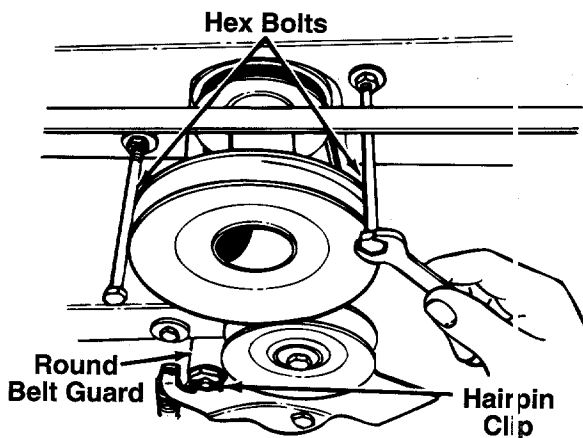

FIGURE 12.
1. Models 145V834H and 145W834P: Working beneath the tractor, remove the round belt guard from the idler by removing the hairpin clip. See figure 12. Remove the two hex bolts which act as belt keepers by the engine pulley.
- Models 145V834H and 145W834P:** Replace the round belt guard by the idler pulley (hex side down). Replace the hex bolts (belt keepers) by the engine pulley. Refer to figure 12.